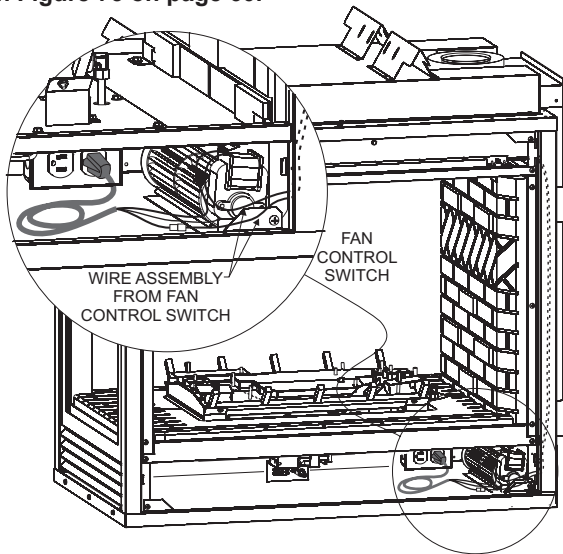

Figure 71
To install the blower kit or access the junction box, remove lower louver as illustrated by figure 71.
4. Insert blower assembly into interior, bottom of fireplace. Note: On peninsula models, the blower must be installed at the end which has the brick panel installed. Position blower assembly so that you align the notch on back of blower assembly with the center screw on side/end panel, then push the blower assembly against fireplace outer panel. The blower wheel must be centered with the side/end wall of the fireplace. The magnets on the back and bottom of blower assembly will sufficiently hold blower assembly in place. **See Figure 71.**
6. Next, find the fan control wire assembly. Feed the wires over the top of the firebox. The fan control wires will slide down between the firebox and outer wrap near the blower assembly. **See Figure 71. Attach the two 3/16" wire terminals to the fan control switch as shown in Figure 72. Attach the wire terminals at the blower as shown by letters "A" and "B" in Figure 75 on page 60.**